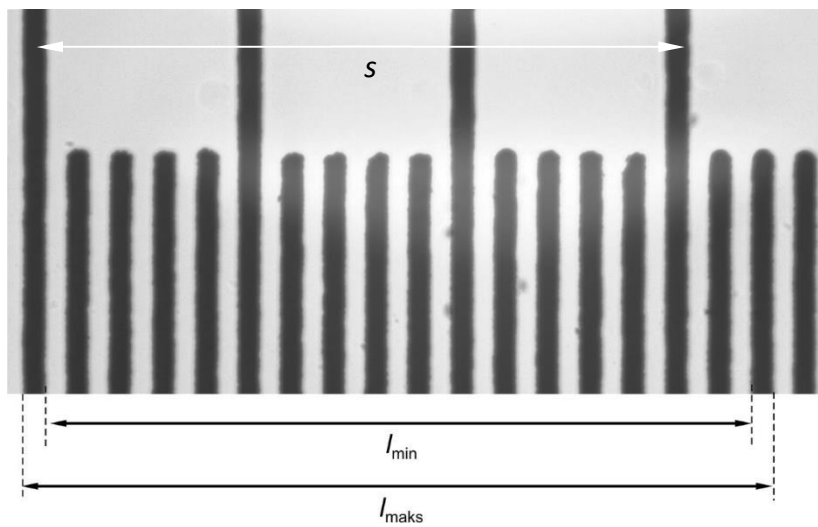

Fig. 2. Image of the stage micrometer.
6. Turn the focus adjustment knobs (1) slowly until the stage micrometer comes into sharp focus and, using mechanical stage X and Y controls (5), move stage micrometer until it is centered in the field of view.
7. While looking through the eyepieces close the field diaphragm (7) located on top of light collecting lens assembly (8) to about 1/3 of the field. Focus the field diaphragm of the illuminator by lowering the condenser lens. Iris leaves should be focused.
8. Changing magnification is accomplished by rotating objective nosepiece (10) until different objective lens is moved into optical path. Rotate revolving nosepiece to position 40x and using focus adjustment knobs bring stage micrometer into sharp focus. Repeat the procedure described in point 7. Finally, rotate revolving nosepiece to position 60x (target magnification) and bring stage micrometer into sharp focus and again repeat the procedure described in point 7.
9. Optimize the image quality by adjusting the aperture diaphragm (11) (i.e. its opening). It controls the amount of light, helps to achieve high resolution of specimen and provide contrast in the image. Smaller apertures will deliver higher contrast to image. However, closing aperture too much will reduce resolution (!). Experimentation is the best method for determining the correct opening of diaphragm.
- a) measure the length of line segment of the greatest possible length l_{max} then measure the length of line segment of the smallest possible length l_{min} , corresponding to the selected reference line segment s – see Fig. 2 (in this figure s equals $17 \times 10 \mu\text{m} = 170 \mu\text{m}$) - MENU: measurement, tool: . Calculate the average value of the length l and its error Δl :